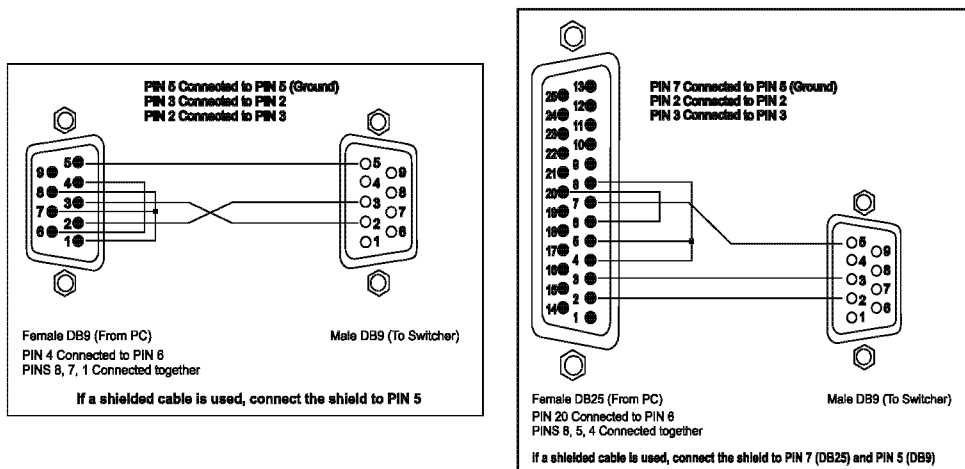
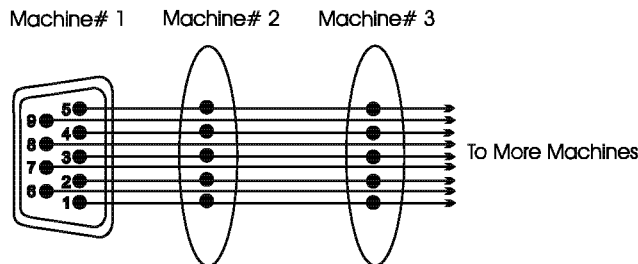

Figure 7: RS-232 Control Connector Wiring
Figure 8: Connecting Multi-Machines
- 2) Connect a PC equipped with a serial port to the socket marked "TO PC" on the rear panel of the VS-2000, using the null modem adapter provided with the machine. Use a straight DB9 to DB9 connector if you are using the null modem adapter, or connect as in Figure 7.
To connect directly to a PC without using the KRAMER Null-Modem Adapter, make connections as in Figure 7. To use the KRAMER Adapter instead (recommended), plug one end into the PC's serial port, then connect from the other end to the switcher using a 9-pin flat-cable. When several machines are to be connected together, make the connections as in Figure 8, or extend pins "5" and "9" only.